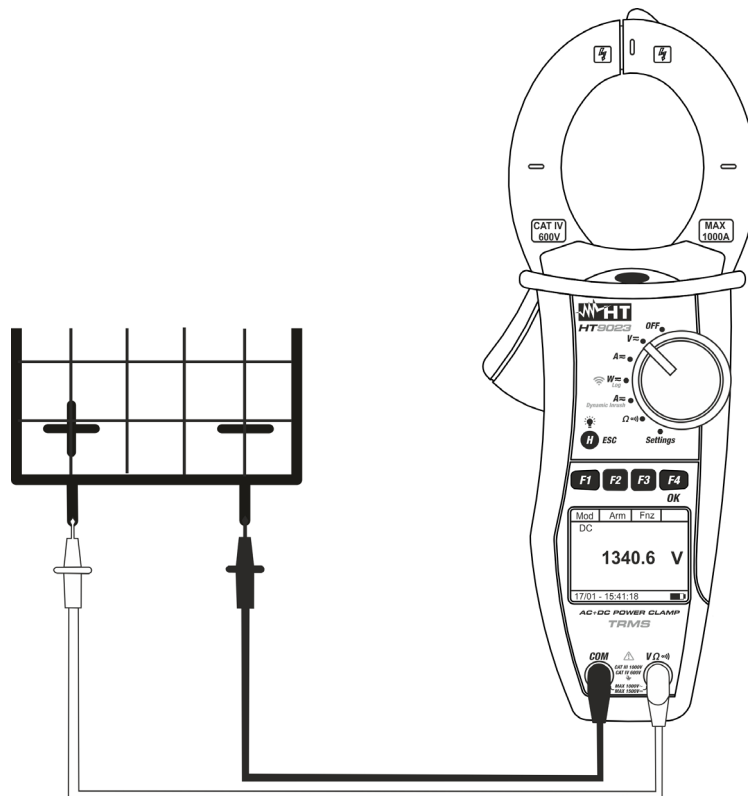

Fig. 5: DC Voltage measurement
4. Connect red cable to input lead **VΩ[~]⏏** and black cable to input lead **COM** then position the leads at the desired points of the circuit under test (see Fig. 5)